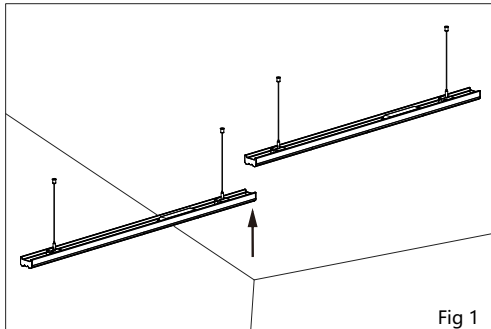

Fig 1
1. First, install the lamps according to the order of single-lamp installation, pay attention to the installation spacing, installation height should be the same (Fig 1), Fig (2)